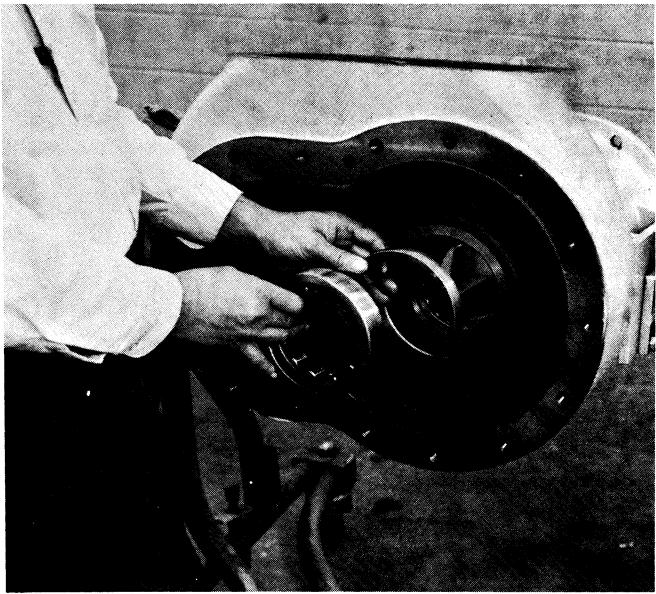
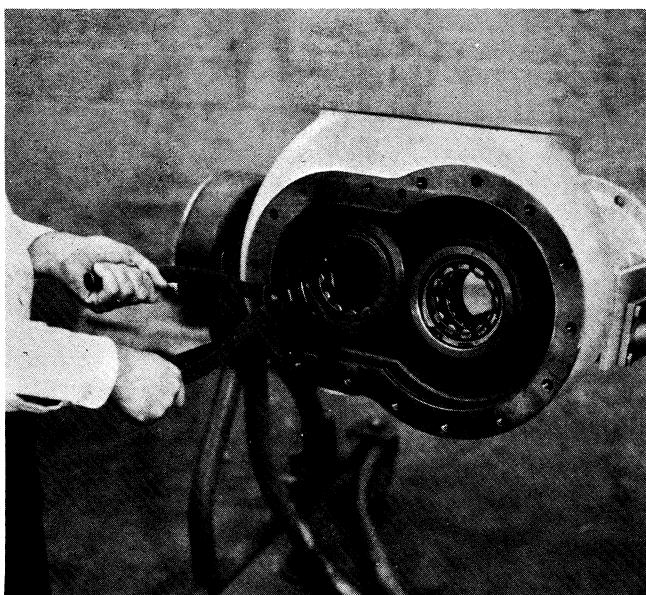

Figure 20
Figure 19
15. Using the proper tools, remove the two front roller bearing internal retaining rings from the rotor housing. Refer to Figure 19. Remove the outer race of the drive shaft roller bearing, the spacer ring, refer to Figure 20, and the outer races of the two rotor front roller bearings from the rotor housing, using a bearing puller, if necessary.